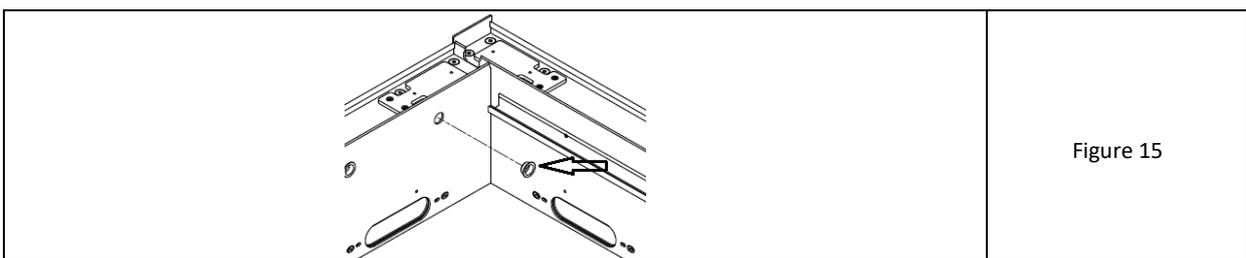

Figure 15
16. Thread the outermost slip rings into the large windows for the feather axes on the longitudinal beams (Fig. 15).